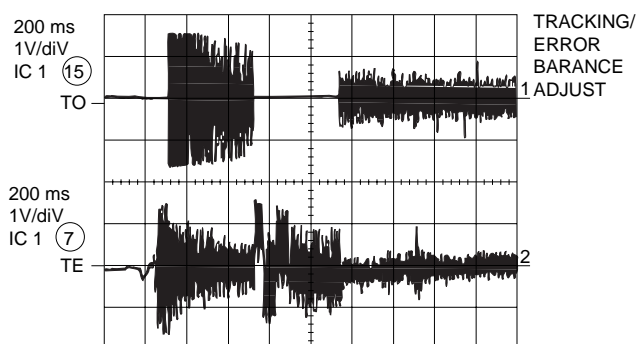

Figure 18-3
3. E/F Balance (Tracking Error Balance) (Fig. 18-3)